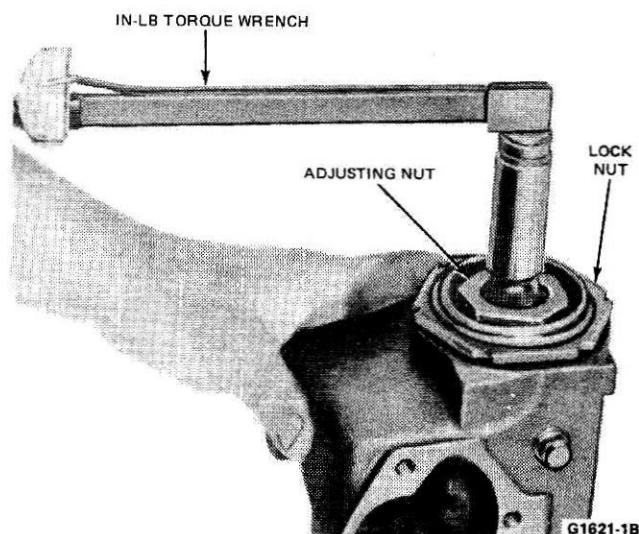

FIG. 8 Checking Steering Shaft Bearing Preload
11. Using an in-lb. torque wrench, adjust the worm bearing preload (Fig. 8). Refer to the table at the end of this Part.